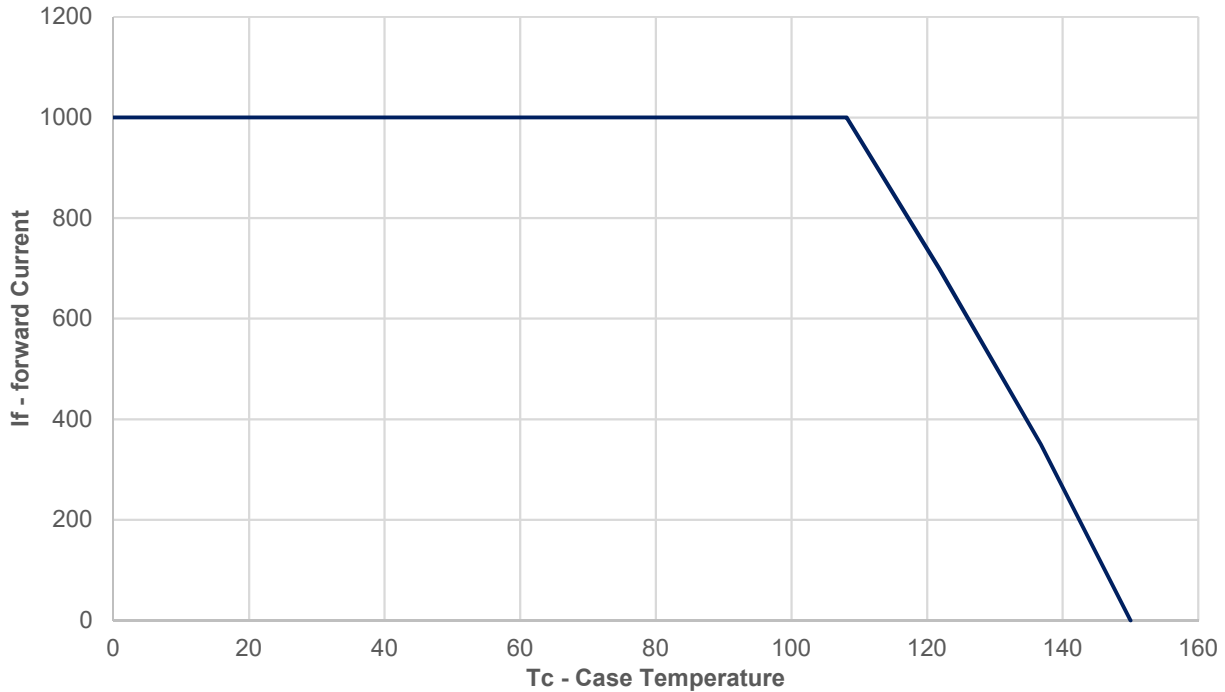

Figure 11: Maximum forward current vs. case temperature based on $T_{J(MAX)} = 150^{\circ}C$
- Maximum DC forward current is determined by thermal resistance and case temperature. Follow Figure 11 for current derating.